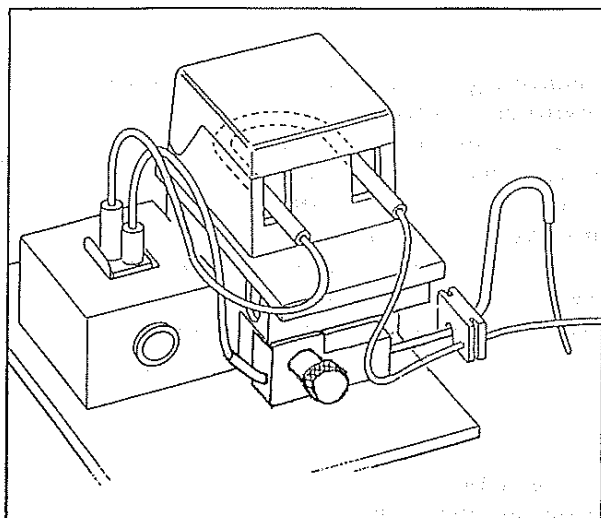

Fig.1.1 Fitting Autofill K tubing
Autofill K is fitted with tubing as follows (refer to Fig.1.1):
a) Take the beak assembly and feed the piece of transport tubing with the shorter knurled finger screw through from the pivot end (see Fig. 1.1) until a few centimetres exit from the other end. Unscrew the knurled pivot screw from the pump assembly, place the beak assembly onto the pivot screw and replace the screw in the pump assembly. Tighten the pivot screw and ensure the beak assembly moves freely up and down to operate the microswitch.
the white arrow painted on the front of the flowcell. See Fig 1.1.
d) Place the flowcell in the flowcell compartment. The tubing exiting from the Autofill beak should be pulled out until the tubing slack is taken up to leave it routed as indicated in Fig.1.1.
g) Raise the transparent plastic lid of the pump head compartment, lay the flowcell end of the pump tubing in its locating slot and then feed the tubing around the backplate by rotating the pump rollers by hand in a clockwise direction to lead the tubing into the correct position as indicated in Fig.1.1.
- d) Fit the slotted black plastic blank (light shield grommet) required for the Autofill over the Autofill beak and onto the front lower lid of the sample compartment. The tubing to waste should already be fitted through the hole in this blank but if it is not (as when fitting the tubing - see Fig.1.1) then pass it through the hole before fitting the blank.